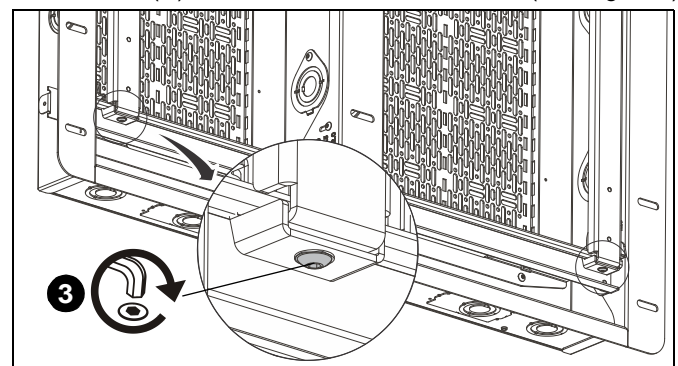

Figure 4
3. Tighten screws at bottom of macro height-adjustment brackets (D) to secure brackets to lower rails. (See Figure 4)